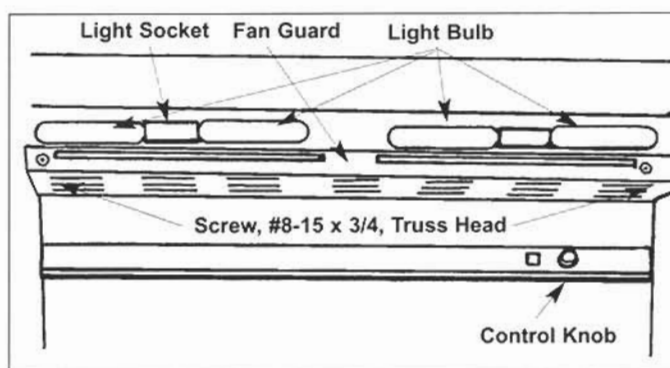

Figure 2-55. Fan Guard
2. Remove the two screws from the fan guard and lift out (Figure 2-55). Tilt the evaporator cover out at the top and lift off of the posts at the bottom.
- Remove the two screws from the air diffuser and lift out (Figure 2-55). Tilt the evaporator cover out at the top and lift off of the posts at the bottom.